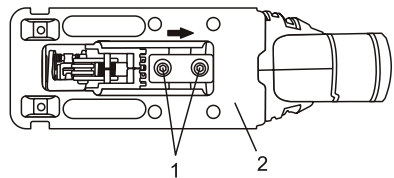

Fig. 3
1. Loosen both base pivot screws (1) until the base (2) can be rotated (Fig. 3). **NOTE:** Use 1/8" (3 mm) hex key supplied.
Bevel cutting angles may be adjusted from 0° to 45° either left or right. To adjust the bevel angle, refer to Fig. 3, 4 & 5.